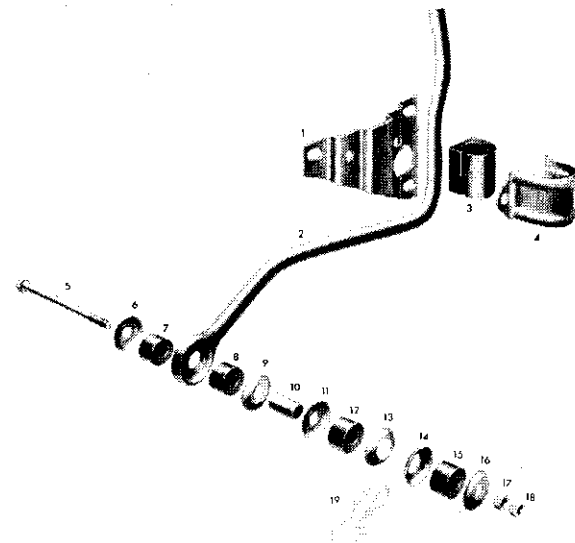

FIG. 388
Remove the lock nut (18, Fig. 388) and inner nut (17), which allows the removal of the grommet retainer (16), grommet (15), and grommet seat (14). Remove the stabilizer link (5), grommet retainers (6, 9, and 11), grommets (7, 8, and 12), spacer (10), and grommet seat (13) from the end of the stabilizer shaft (2).
Fig. 388 is an exploded view of the right side end of the stabilizer shaft, which is different from the left side in that it has an offset to avoid interference with the exhaust pipe.
Spread the bushing (3, Fig. 388) and install on the stabilizer shaft (2). Install both bushings and place the bushing retainers (4) on the bushings. Position the stabilizer shaft at the shaft brackets (1), with the ends of the shaft above the control arm brackets, and install the bushing retainer on the shaft bracket on both sides.